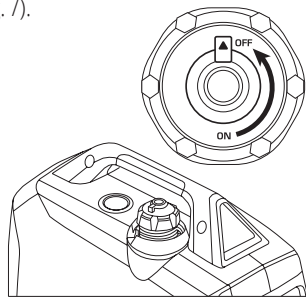

Fig. 6
7. After the generator stops, allow it to cool down and close the air vent on the fuel cap (set to OFF, as shown in Fig. 6, for models KS 2000i S, KS 2000iG S - when switching off gasoline operation).